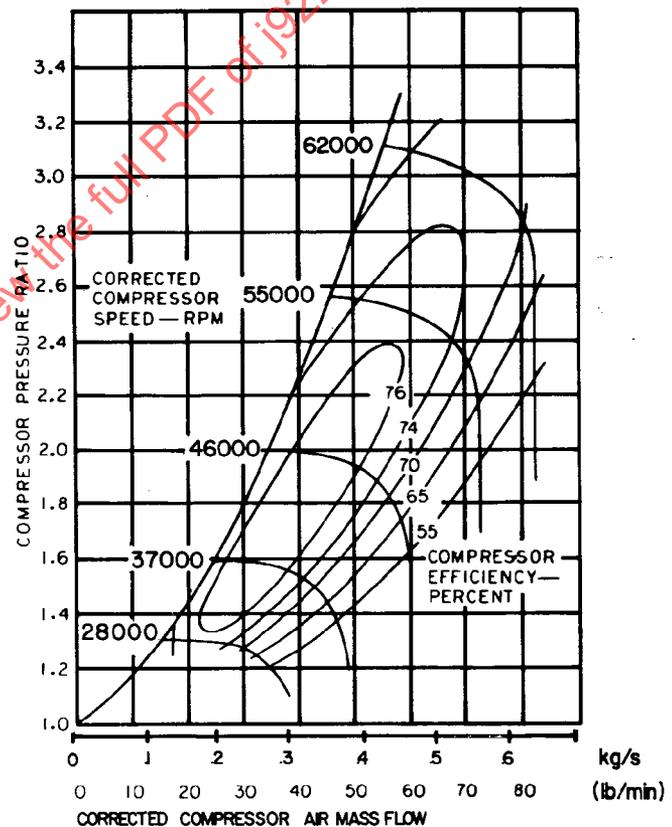

FIG. 1—TYPICAL TURBOCHARGER COMPRESSOR PERFORMANCE GRAPH
4. **Compressor Performance Graph**—A plot of pressure ratio against mass flow with speed and efficiency as parameters. A typical example is shown in Fig. 1.